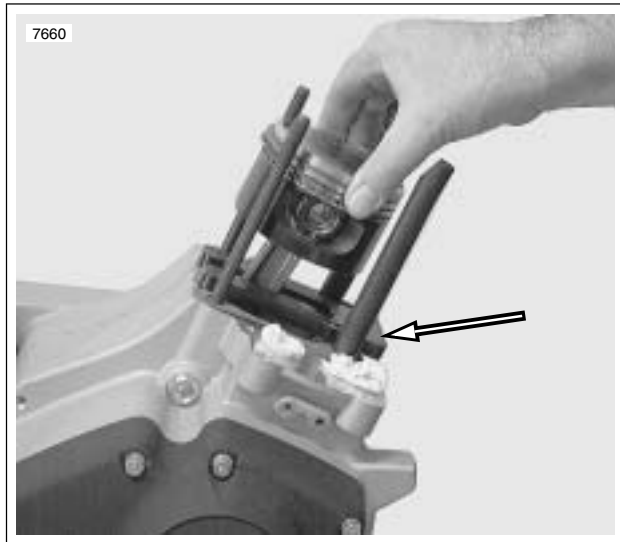

Figure 3-84. Piston Support Plate
1. See Figure 3-84. Place PISTON SUPPORT PLATE (Part No. HD-42322) in position as shown.